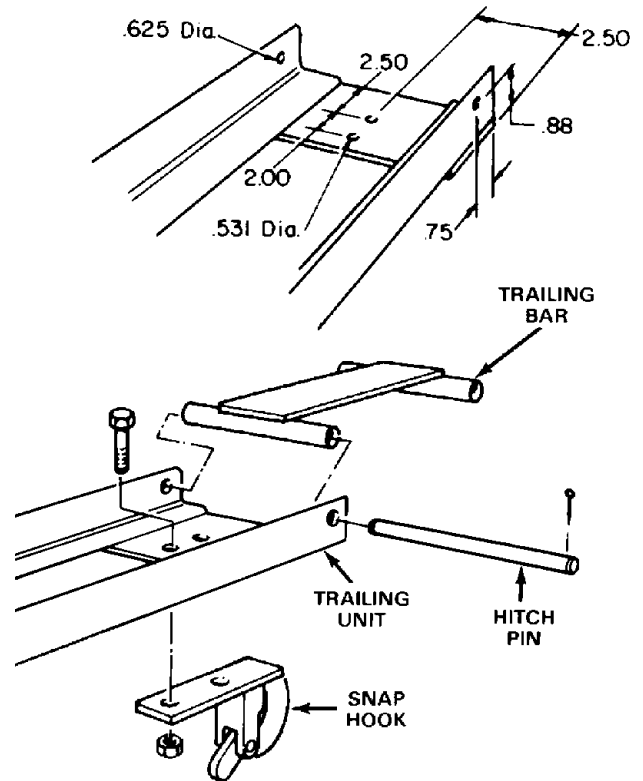

Figure 7
1. Locate and drill required mounting holes in trailing units and wing units (Fig. 7 & 8).
2. Install kit parts to trailing unit by mounting trailing bar to rear of frames with hinge pin and (2) cotter pins. Secure snap hook to underside of frame with (2) capscrews and locknuts (Fig. 7).